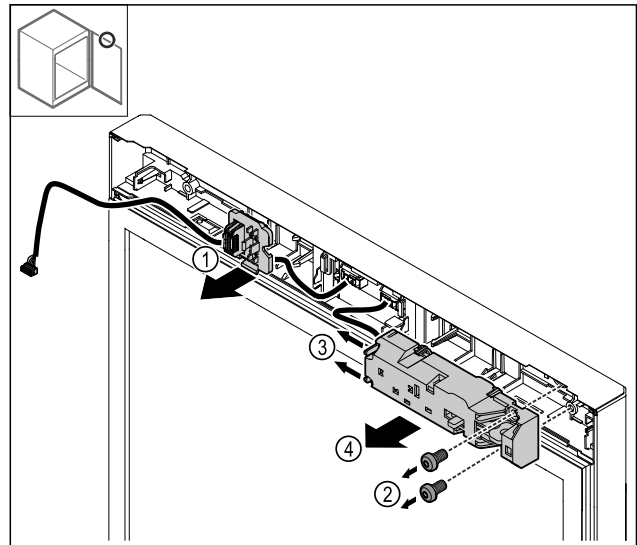

Fig. 27
- ▶ Unlatch the plug holder Fig. 27 (1).
- ▶ Remove the Fig. 27 (2) screws.
- ▶ Push the latching tabs Fig. 27 (3) to the side and remove the electrical lock Fig. 27 (4).